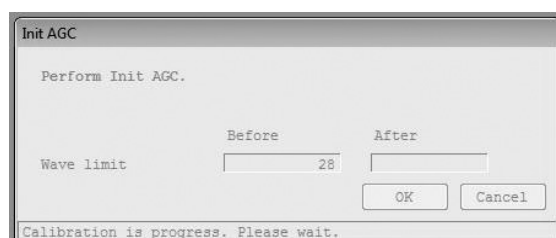

Fig. 3-66
- (4) By clicking "OK" button, the sensitivity adjustment will be executed. The screen during adjustment displays the process during adjustment as shown in Fig. 3-66.